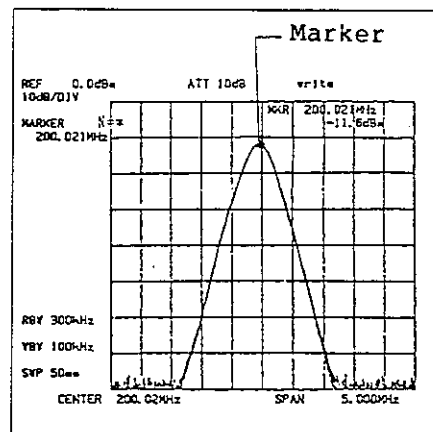

Figure 3-14 Marker → Center Frequency
Fixes the marker (\*) and a new marker (◇) appears on the screen. The following softkey menu ④ is displayed as well. The marker data display indicates the frequency and level difference between the two markers (see Figures 3-14 and 3-15). The "◇" marker is operated by using the data knob, step key, or ten-key pad. To delete this "◇" marker and to activate the normal marker, press . To delete both of them, press .